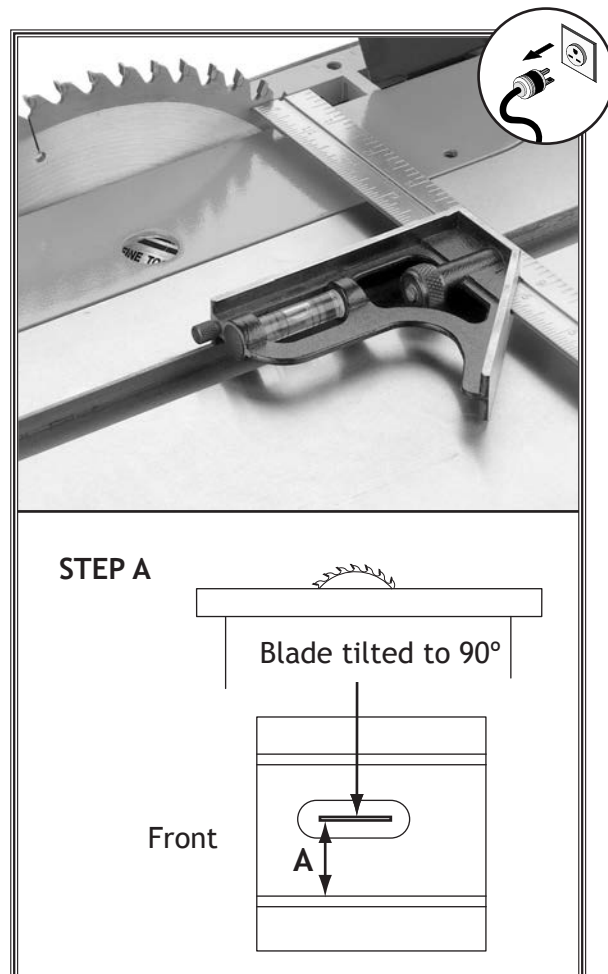

Figure 93. Making the first slot-to-blade measurement at 90°.
2. Use the adjustable square to measure the distance from the miter slot to a carbide tip on the blade, as shown in **Figure 93**. Make sure that the face of the adjustable square is even along the miter slot.